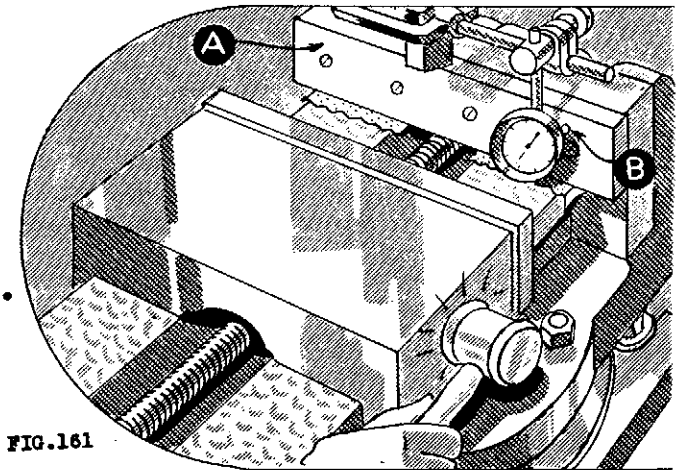

FIG. 161
11. Note the measurement on the dial; then move the ram to the forward position at B (Fig. 161).